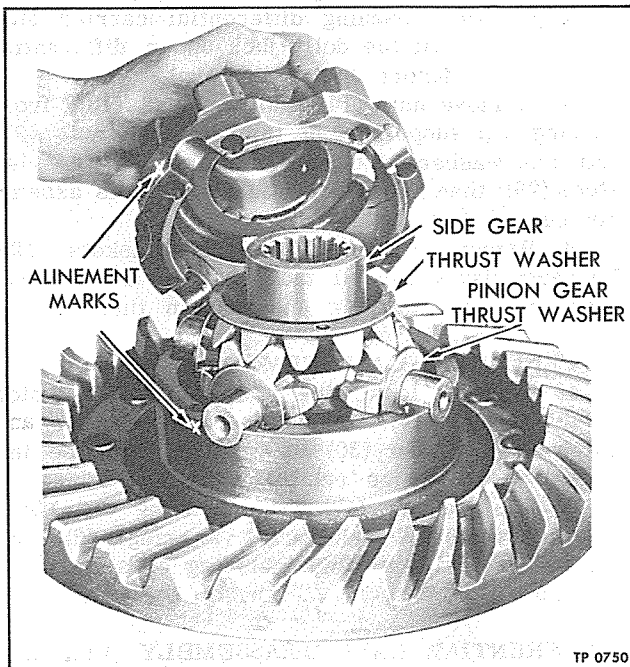

Figure 3—Typical Differential Case Showing Alignment Marks
2. Before disassembling differential case (10) be sure both sections are marked (fig. 3), so parts can be assembled in same relative position.
3. Cut lock wire (15) and remove nuts (11)
2. Dip side gears (20), pinion gears (55), thrust washers (21 and 24) and spider (54) in differential lubricant; then permit excess lubricant to drain off parts. Install pinions (55) and thrust washers (24) on spider (54). Install washers (21) on hubs of gears (20). Place one gear (20) and washer (21) in left-hand section of case (10), position spider assembly on top of gear (20), then install other gear (20) and washer (21) on top of spider assembly.
3. Place right-hand section of case (10) in position on top of left section of case. Alignment marks (fig. 3) on sections of case must register correctly to be certain that case is assembled in original relative position. Insert bolts (7) into left-hand section of case (10) and through right-hand section; then install nuts (11) on bolts (7) and tighten nuts firmly. While nuts are being tightened, align slots in nuts (11) with holes in bolts (7) so that lock wire (15) can be installed to lock nuts in place after nuts (11) are tightened. Insert lock wire (15) through bolts, draw wire taut and secure ends of wire together.
4. Assemble drive gear (8) onto differential case (10), install bolts (29) which are used to attach gear (8) to case (10), then tighten bolts (29) securely and insert lock wire through heads of bolts (29) in such a manner so that lock wire will tighten if bolts loosen.
5. Install bearings (3) on case hubs (10) with a suitable piece of tubing which will bear on inner race of bearing (23). Make certain that bearings seat solidly on hubs of case.